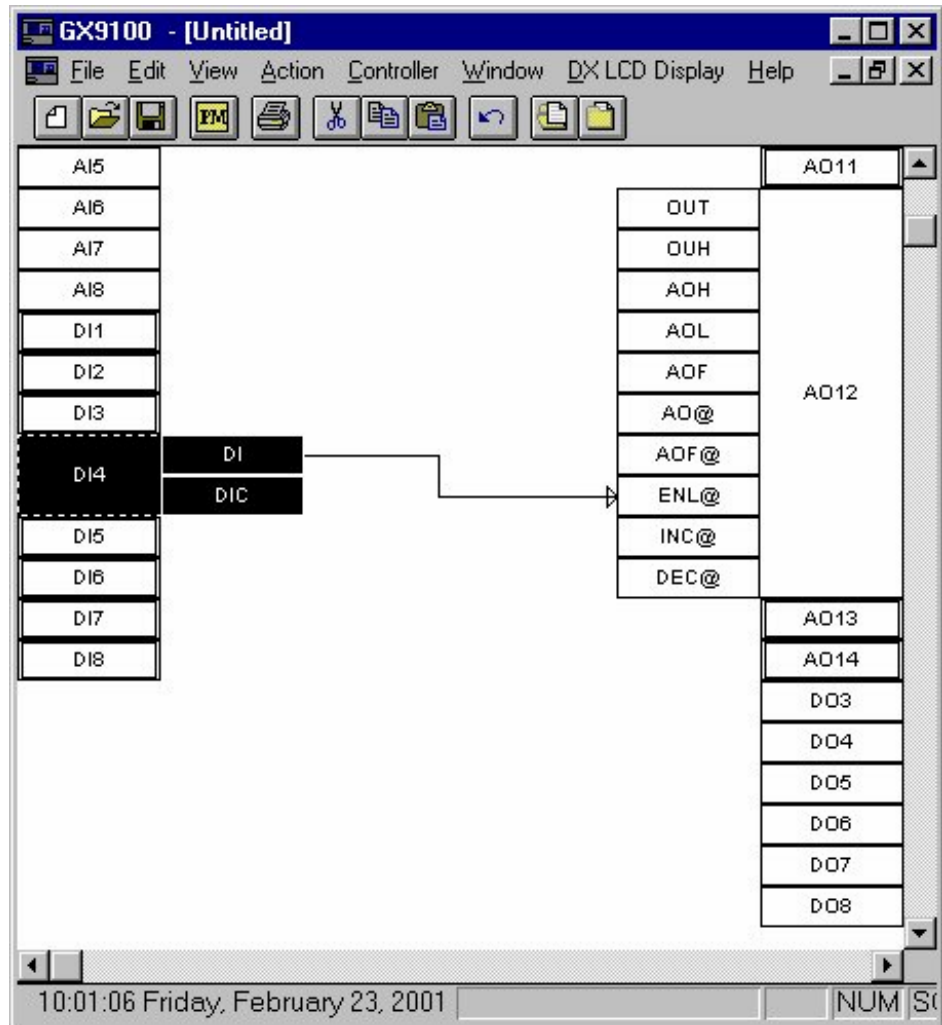

Figure 6-1: Example of Connected Modules
An input with a logical connection to an output is a connected module. The GX Tool screen (Figure 6-1) shows a line between connected modules.
6. Click Yes or No. A line appears (Figure 6-1) between modules to show connection.
6. Highlight the desired output and click OK. A line appears (Figure 6-1) showing the connection between the two modules.